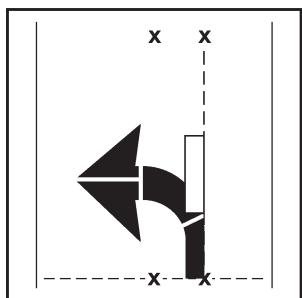

Figure 23
- Lay out the base of the straight arrow (liner still on) with the RIGHT edge along the chalk line and the base corner meeting where the curve arrow begins to curve away from the chalk line (see Figure 23).